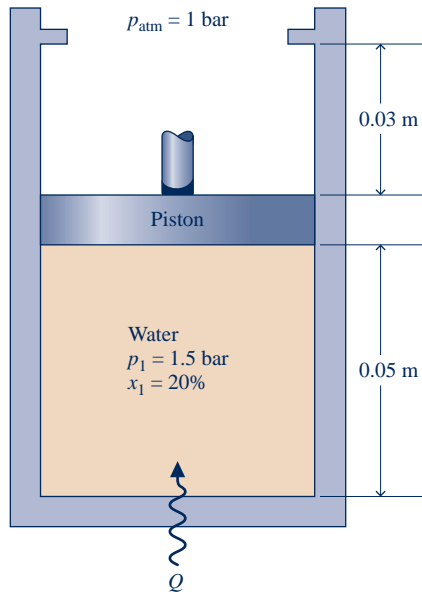

Fig. P3.70
3.70 Referring to Fig. P3.70, water contained in a piston–cylinder assembly, initially at 1.5 bar and a quality of 20% , is heated at constant pressure until the piston hits the stops. Heating then continues until the water is saturated vapor. Show the processes of the water in series on a sketch of the T – v diagram. For the overall process of the water, evaluate the work and heat transfer, each in kJ/kg. Kinetic and potential effects are negligible.